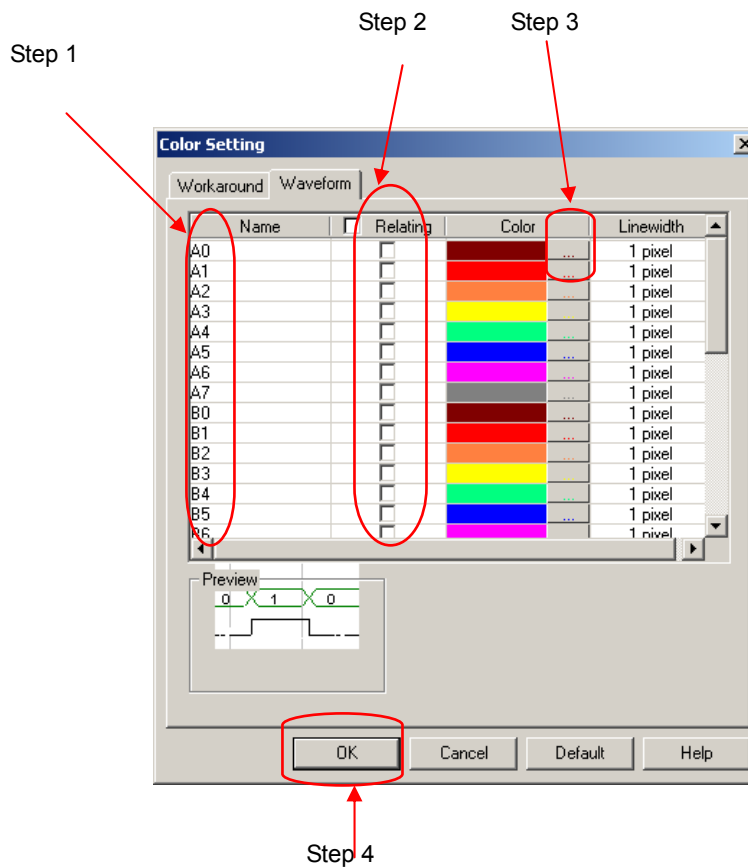

Fig 3-164: Stepwise Illustration of Changing **Waveform** Colors
Foreground color refers to the color of the output signal lines in the Waveform Display Area. *Fig3-164* presents how to change colors of a signal or some signals. Repeat the following procedures if users need to change colors of many signals.
Step 3: Choose a color by following the method shown in Fig 3-164.